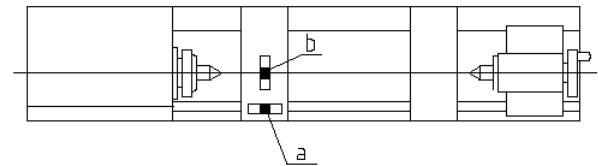

Figure 5: Leveling
8. Use a machinist's precision level on the bed ways both front to back and side to side, as shown in Figure 5. Take the reading in one direction every ten inches. Make sure the ways are clean and free of any debris before placing a level upon them.
9. Deviation over bed length (see Figure 5):